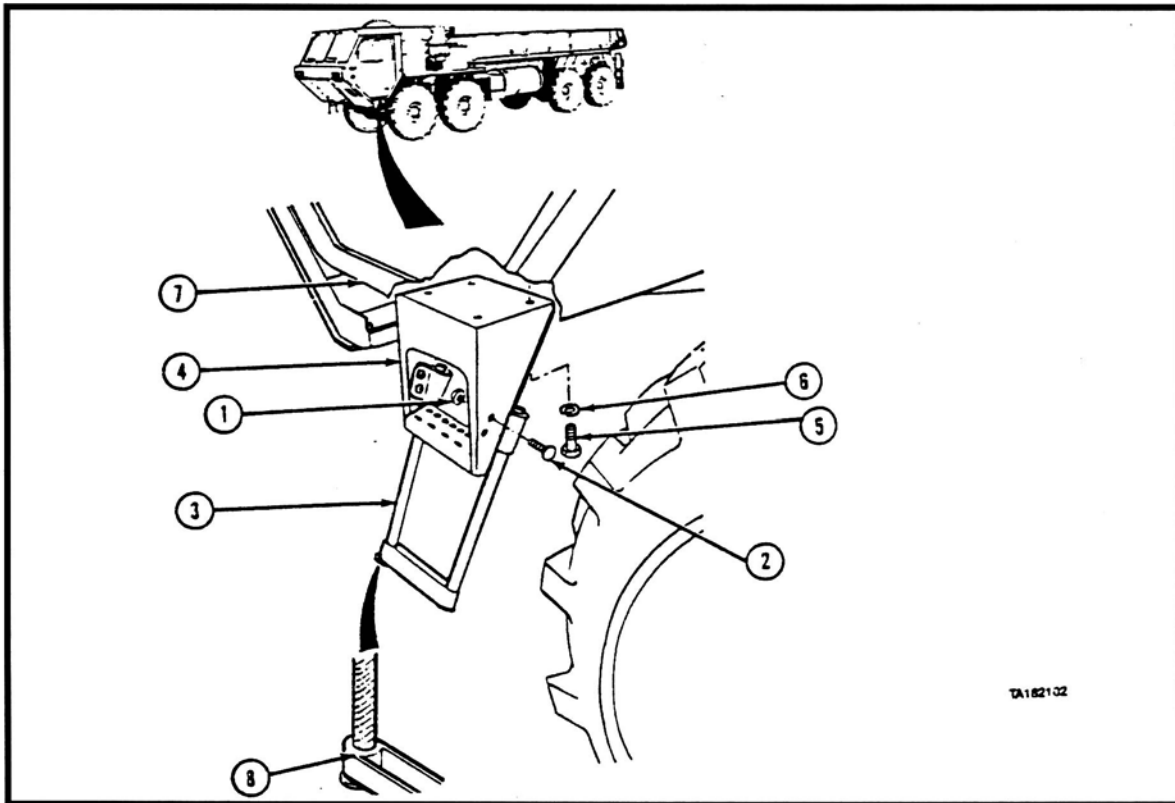

Figure 7. Remove the Cab Step.
1. Remove the four screws (Item 5 in Figure 7) and lockwashers (6) from the Cab Step (4), and remove the Cab Step (4) from the bottom of the cab (7).